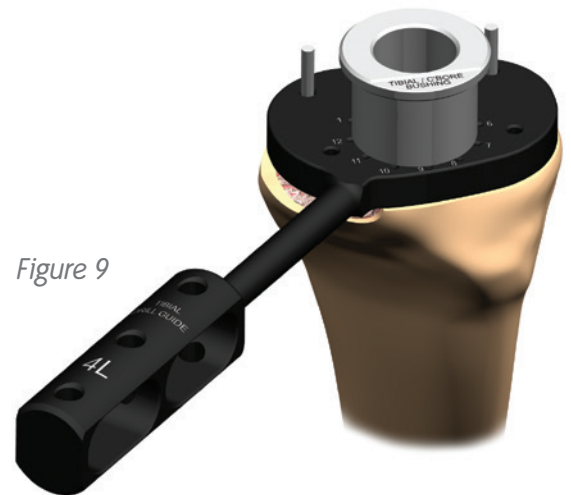

Figure 9
5. Insert the Tibial Counterbore Guide Bushing into the Tibial Drill Guide (*Figure 9*).